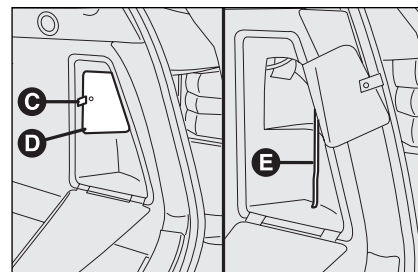

fig. 131
- hold the tongue **C**-fig. 131 to open the second flap **D**;